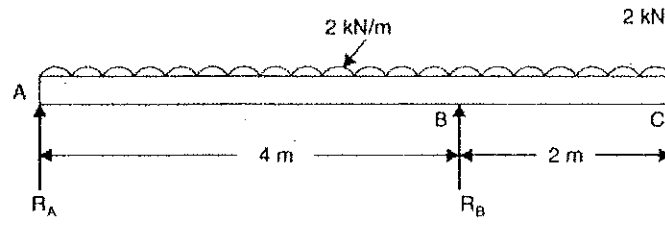

Fig. Q1
2. This question paper consists of Eight (8) questions in **Four (4)** pages.
3. Answer any **Five (5)** questions only. All questions carry equal marks.
- (c) Draw the Shear Force and Bending Moment diagrams for the overhanging beam carrying uniformly distributed load of 2 kN/m over the entire length and a point load of 2 kN as shown in Fig. Q1.